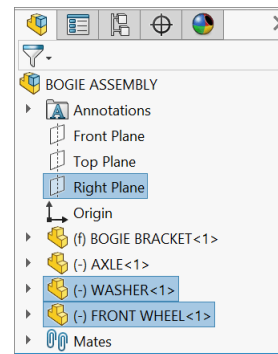

Fig. 17
Step 1. **Ctrl** click **Right Plane** , **Washer**  and **Front Wheel**  components in the Feature Manager to select plane and components, Fig. 17.